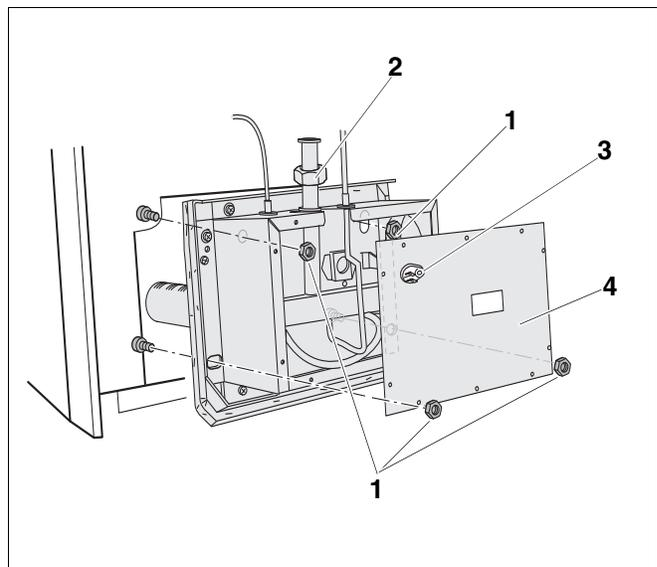

Fig. 5 Gas burner
- 29. Tighten the screws (→ Fig. 5, page 6) between the gas valve and the burner box again. Make sure that the connection pipe gasket removed in step 15 is replaced.